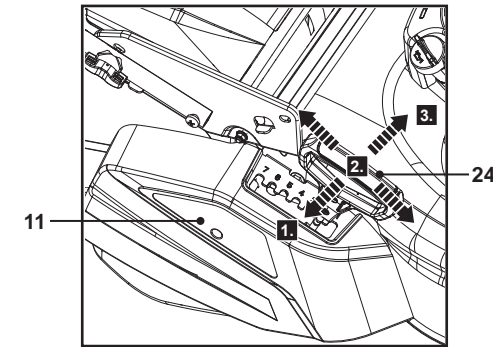

Fig. 19
1. Pull the lever for cutting height adjustment (24) towards the roller deck (11) (Fig. 19, step 1), then move it forward or backward to the desired cutting height (Fig. 19, step 2).
2. Release the lever (24) and ensure it engages into place properly (Fig. 19, step 3).